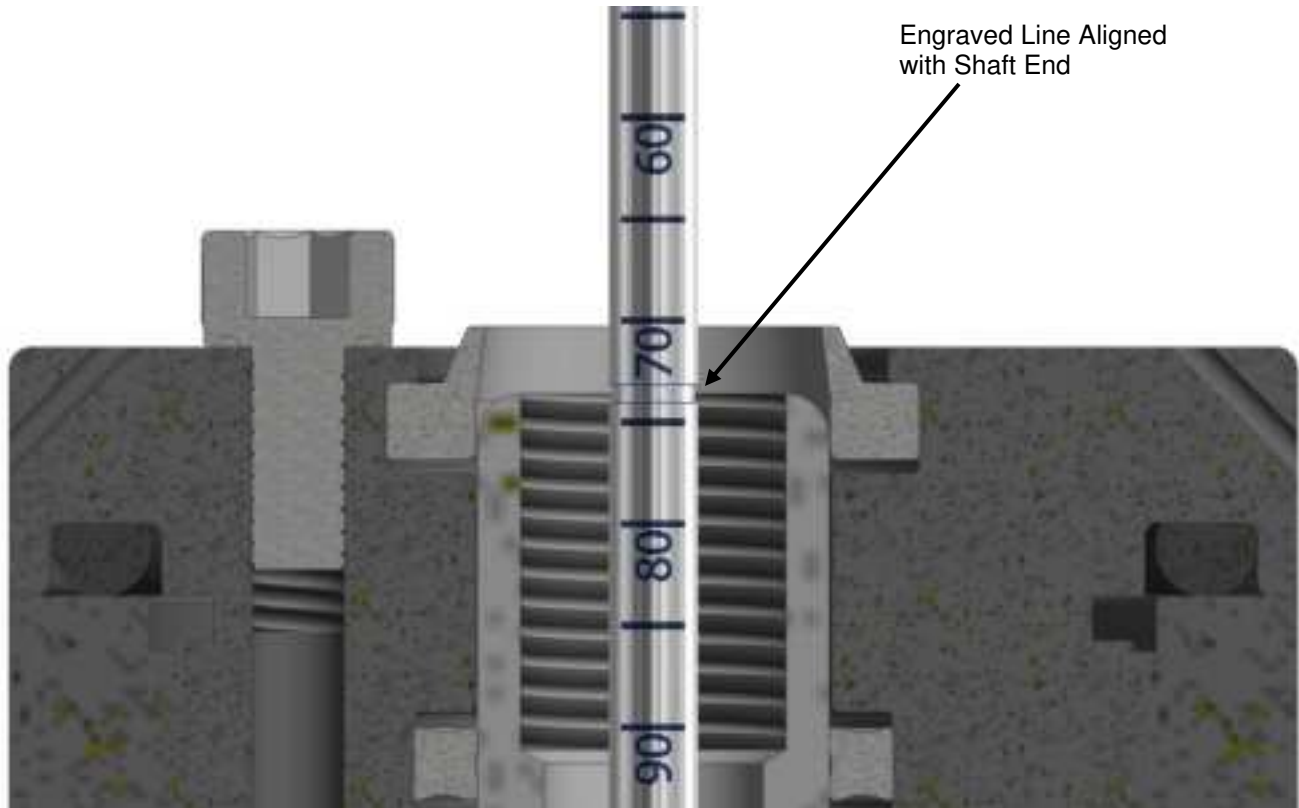

Figure 7: Floating Piston Placement
- 9) Thread the floating piston tool fully into the floating piston and slowly insert the floating piston into the shaft until the engraved line on the floating piston tool is aligned with the end of the shaft (See Figure 7). Unthread and remove the floating piston tool.